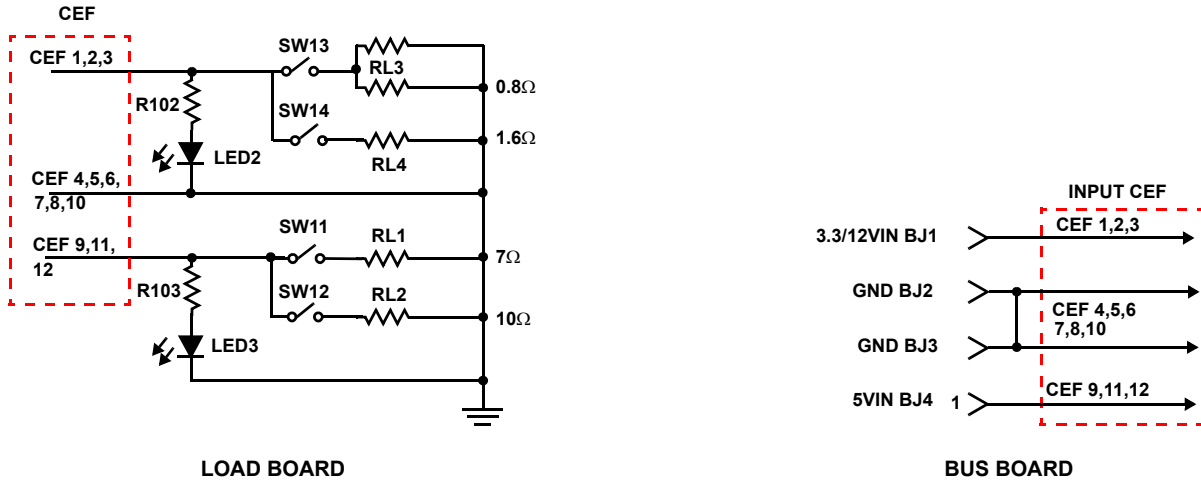

FIGURE 13.
**Exploring and Using the HIP1012EVAL1 Board** (Figures 13 and 14)